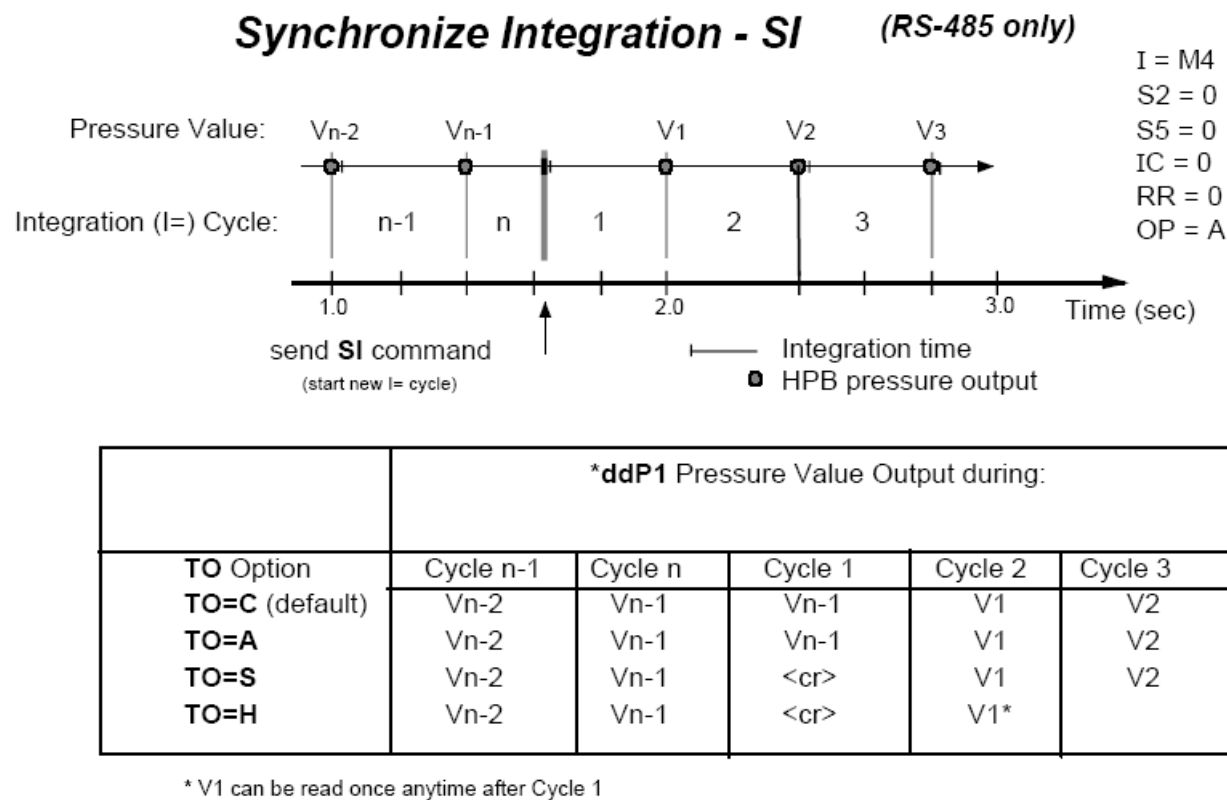

Figure 4.11—Synchronize Integration Cycles (SI) Command Example
Figure 4.11 illustrates the Synchronize Integration cycle (SI) command as well as the Transceiver Operating parameters (TO) options that affect it. This is for RS-485 units only.